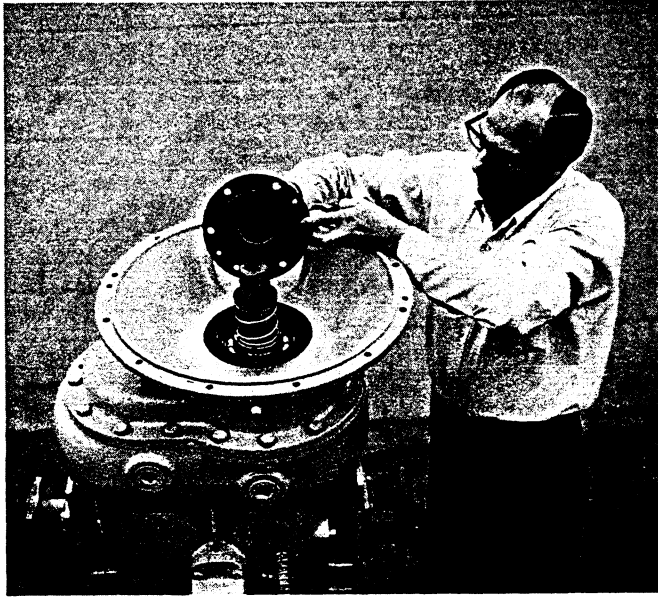

Figure 6
2. Remove the cap screws attaching the oil seal cover to the gear case; then, remove the cover and the oil seal cover gasket, discarding the gasket. Refer to Figure 6. The stationary seal ring of the rotary-shaft-type oil seal will probably come off with the cover. Remove the seal ring from the cover and the balance of the oil seal parts off the drive shaft. Use extreme caution when